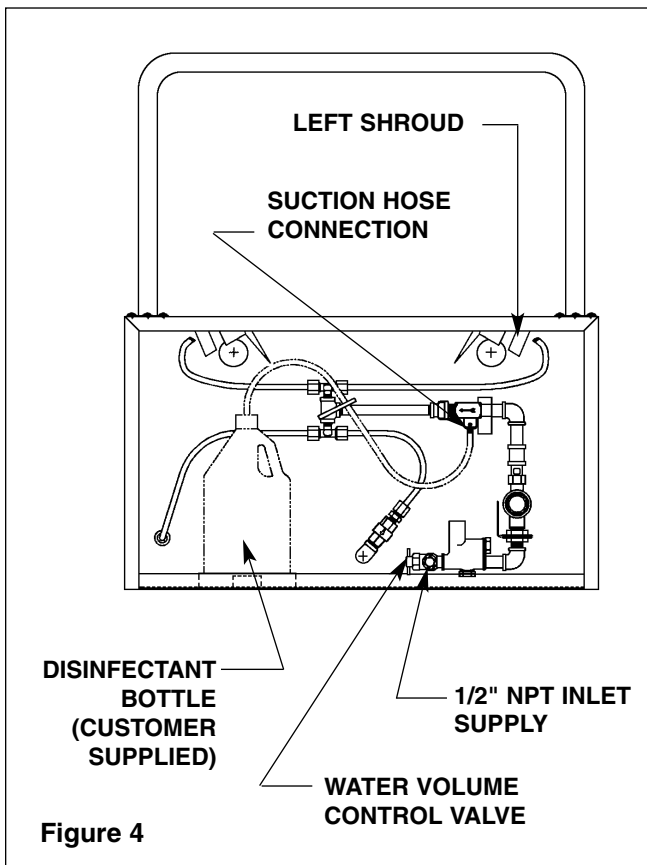
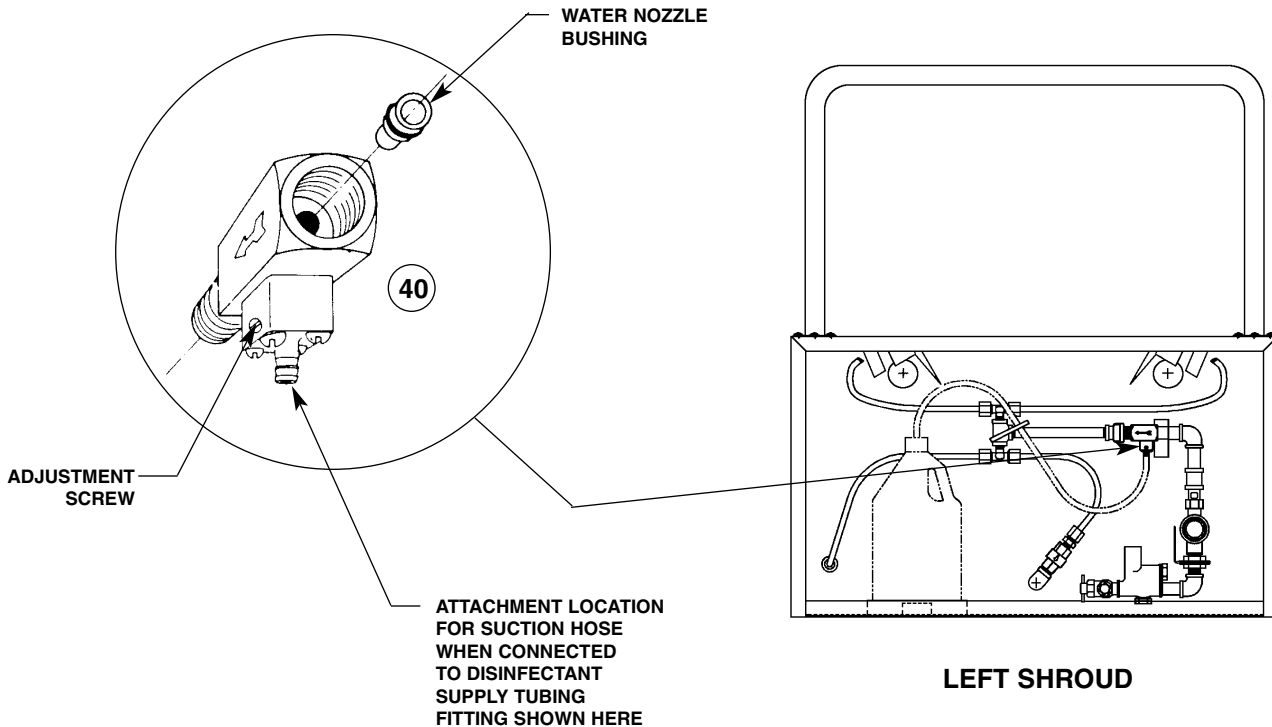

Figure 4
Figure 6 DISINFECTANT MIXING VALVE
3. Connect the supply piping (see Figure 4).
2. Position the disinfectant bottle on tray as shown in Figure 4.
3. Take hose connected to disinfectant mixing valve (see Figure 4 below and Figure 6 on page 6) and remove cable tie used in shipping then place screened end of hose in bottle.
1. Adjust the water flow (refer to Figure 4 for location of water volume control valve).
2. Adjust the chemical flow (refer to Figure 6 for location of adjustment screw).